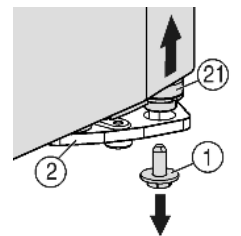
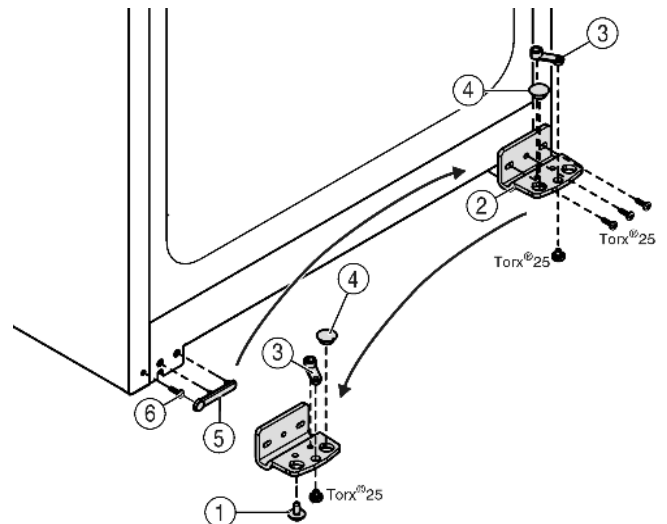

Fig. 5
Fig. 6
- ▶ The bearing pin Fig. 5 (21) should come out of the turn hinge Fig. 6 (2).
- ▶ If the bearing bolt Fig. 5 (21) doesn't undo press it out from underneath.
- ▶ Unscrew the turn hinge *Fig. 6 (2)*.
- ▶ Unscrew the bearing element, *Fig. 6 (3)* transfer it to the opposite location hole of the turn hinge and screw it firmly into place.
- ▶ Take the stopper *Fig. 6 (4)* out of the turn hinge and transfer it to the receiving hole on the opposite side of the turn hinge.
- ▶ Carefully lift off the cover *Fig. 6 (5)* on the handle side.
- ▶ Undo the screw *Fig. 6 (6)* and transfer it to the opposite side.
- ▶ Put the cover *Fig. 6 (5)* back on.
- ▶ Screw the turn hinge *Fig. 6 (2)* firmly into place on the new hinge side (**with 4 Nm**), possibly using a power screwdriver.
- ▶ Insert the securing screw *Fig. 5 (1)* at the bottom into the bearing pin and tighten it (**with 4 Nm**).